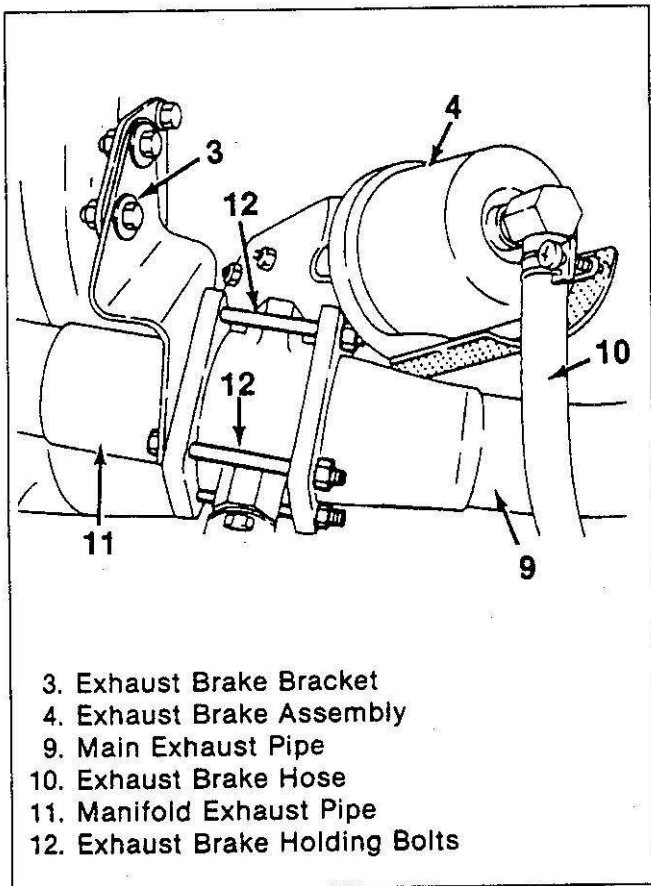

Figure 2. Exhaust Brake Connections
1. Exhaust brake hose (10).
2. Exhaust brake bracket (3).
3. Manifold exhaust pipe (11) and seal (2) from the manifold.
4. Bolts (12) holding the exhaust brake to the exhaust pipes (figure 2).
5. Exhaust brake assembly (4).
6. Main exhaust pipe (9) from the muffler (8).